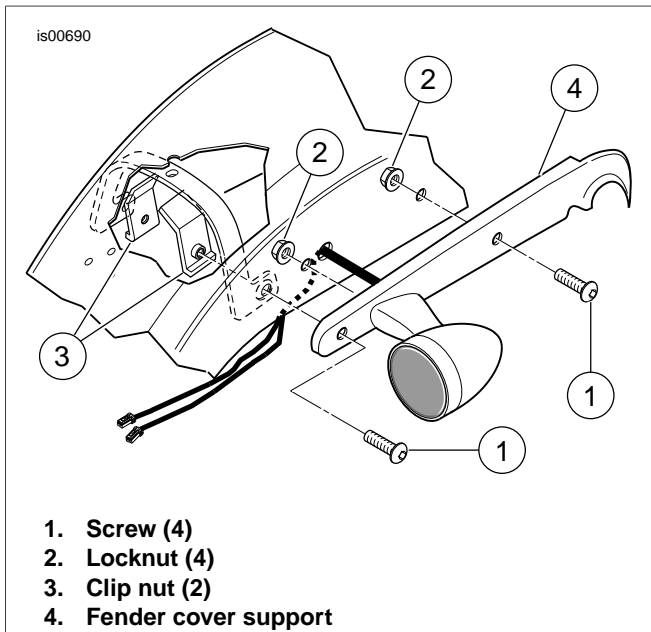

Figure 2. Rear Fender Support Removal
5. See Figure 2. It is necessary to remove taillight lens to access the Amp Multi-Lock connector. Unplug the connectors for each turn signal and push them down and through the opening in the taillight and fender.
6. Remove the front and rear button head screws (1), two locknuts (2) and under fender clip nuts (3) from the left and right rear fender support covers. Discard all but two button head screws and two locknuts.